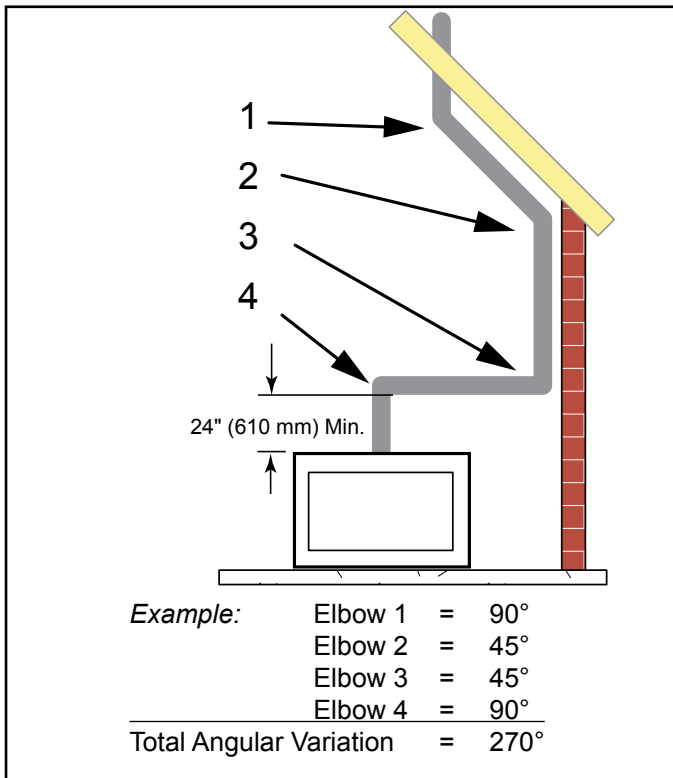

Figure 5.13 Maximum Elbow Usage
- Two sets of 45° elbows offsets may be used within the vertical sections. From 0 to a maximum of 8' (2.5 m) of vent pipe can be used between elbows. See *Figure 5.13*.
- The maximum angular variation allowed in the system is 270°. See *Figure 5.13*.